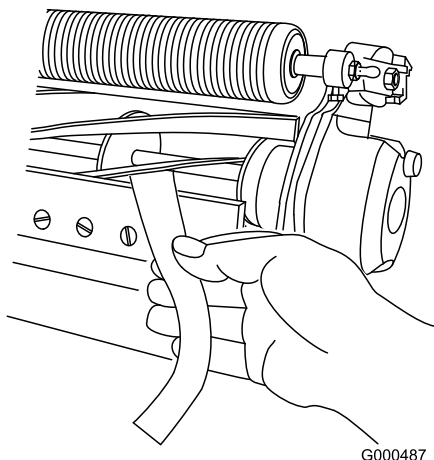

Figure 11
1. Bedbar adjusting screw (2)
B. Insert a long strip of cutting performance paper between the reel and bedknife, perpendicular to the bedknife (Figure 11), then **slowly** rotate the reel forward; it should cut the paper; if not, repeat steps A and B until it does.
11. Insert a long strip of cutting performance paper (Toro Part No. 125-5610) between the reel and bedknife, perpendicular to the bedknife (Figure 11), then **slowly** rotate the reel forward; it should cut the paper; if not, turn each bedbar adjusting bolt clockwise 1 click and repeat this step until it cuts the paper.